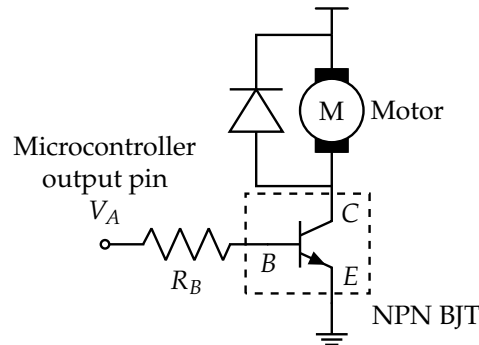

Figure 10: Motor Controller Circuit
In the lab project, you will be designing SIXT33N, a mischievous little robot who *might* just do what you want — if you design it correctly. In phases 1 and 2, you will build the **legs** of SIXT33N: you will be designing SIXT33N's wheels and developing a linear model for the car system. The wheels will be driven by two 9-Volt DC motors whose driver control circuit is shown in Figure 10.
The BJT in Figure 10 is switching between **ON** and **OFF** modes when V_A is HIGH and LOW respectively. The model for both ON and OFF states are shown in Figure 12. When the BJT turns on, V_{BE}
- (a) Draw the equivalent motor controller circuit when the BJT is ON by substituting in the BJT model from Fig. 12a into Fig. 10. Express I_B and I_C for $V_A = V_{A,HIGH}$ as a function of R_B .
When V_A is HIGH, the voltage across the resistor in Figure 10 is $V_{A,HIGH} - V_{BE0}$. This voltage is what determines the the current flowing into the "Base(B)" (I_B) and current flowing into the "Collector (C)" (I_C).
- (b) Draw the equivalent motor controller circuit when the BJT is OFF by substituting in the BJT model from Fig. 12b into Fig. 10. Express I_B and I_C for $V_A = V_{A, \text{LOW}}$ as a function of R_B .